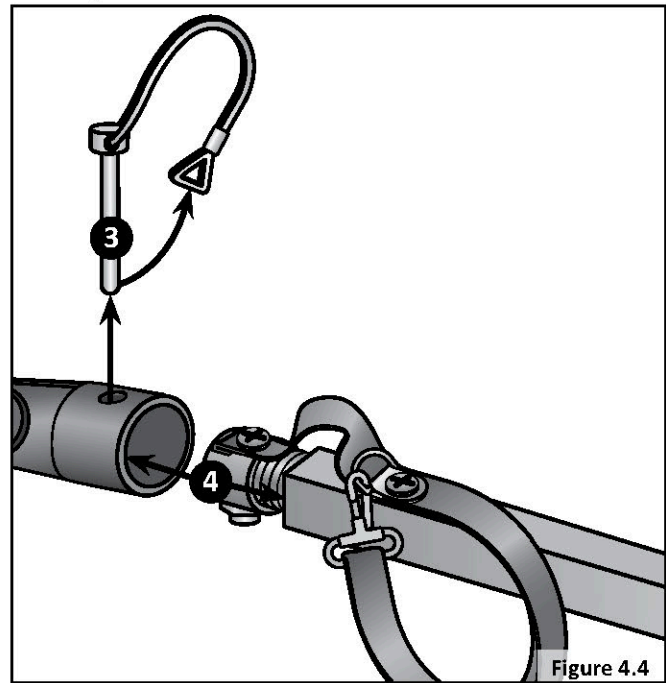

Figure 4.4
4. Remove the safety loop from the end of the locking pin on the end of the coupler. **Figure 4.4**
5. Remove the locking pin from the coupler and slide the coupler off the end of the tow bar. **Figure 4.4**